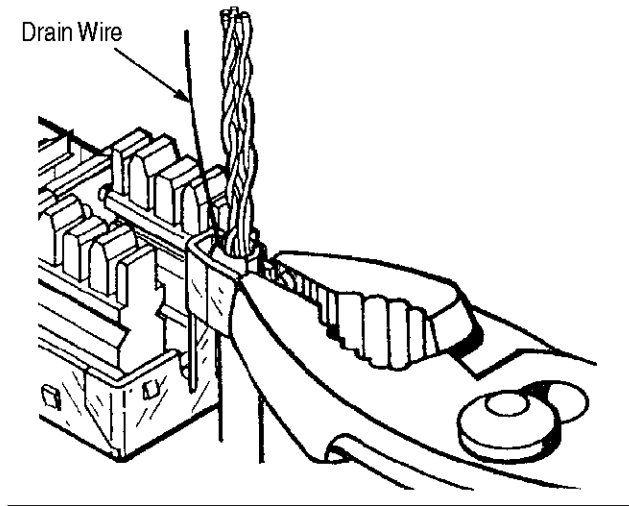

Figure 4
5. Using pliers, pinch tabs on ground clip around cable foil until tabs are parallel. See Figure 4.